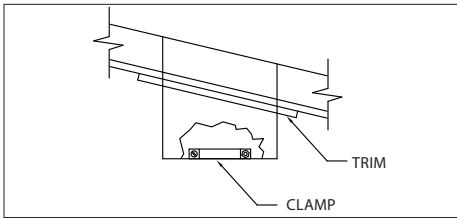

Figure 23
8. Place the Pipe Clamp, (which comes as a component of the Support Box) around the top of the hole in the bottom of the Support Box (**Figure 23**).